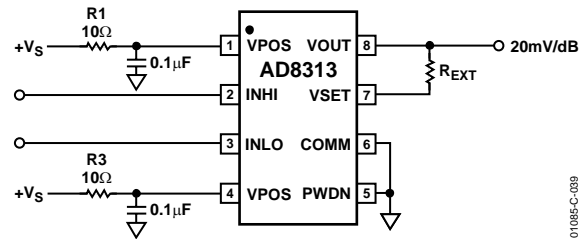

Figure 39. Adjusting the Log Slope to a Fixed Value
As stated, the unadjusted log slope varies with frequency from 17 mV/dB to 20 mV/dB, as shown in Figure 10. By placing a resistor between VOUT and VSET, the slope can be adjusted to a convenient 20 mV/dB as shown in Figure 39.
**Table 5. Values for REXT in Figure 39**